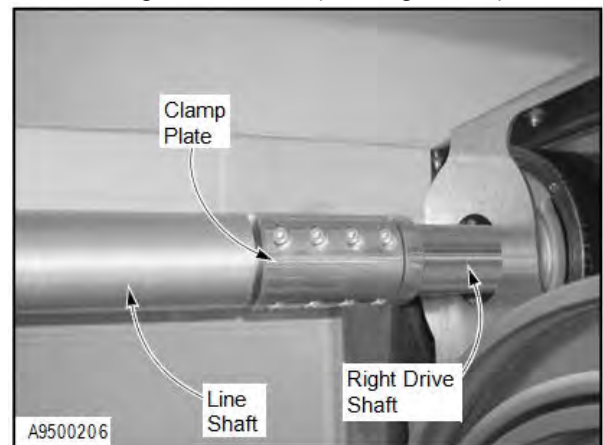

Figure 25
7. Inspect the hardware used to clamp the line shaft to the left and right drive shafts. Tighten the hardware as required. Replace any missing or damaged hardware. (See Figure 25.)